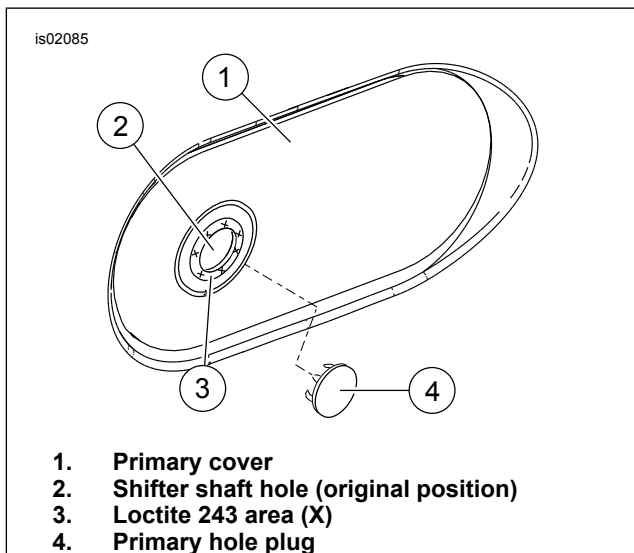

Figure 2. Outer Cover Plug Installation
13. See Figure 2. Clean the area around primary cover (1) hole, removing all dirt, oil and grease. Apply Loctite 243 around opening (2). Insert primary hole plug (4) into opening. Remove any excess adhesive from surface. Allow Loctite to cure for 24 hours before operating vehicle.